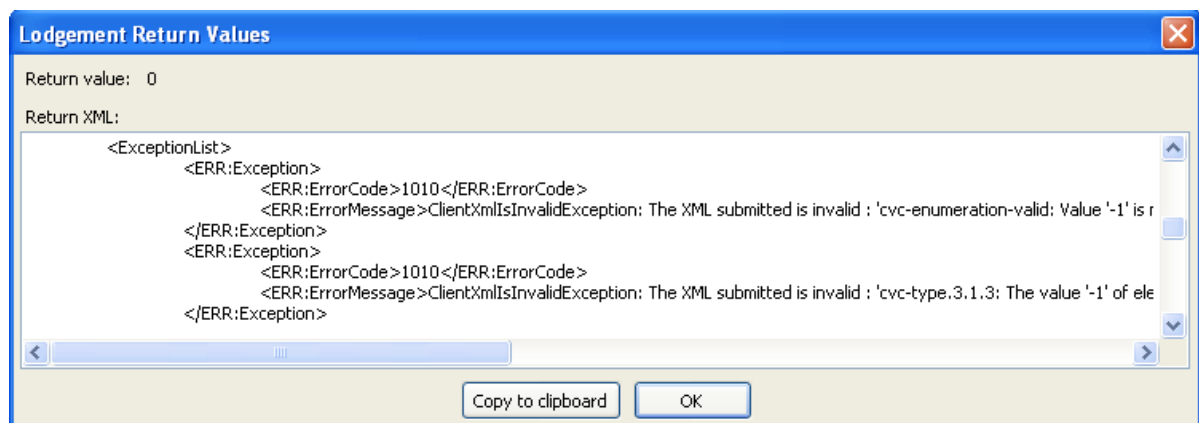

Figure 5.2: Viewing the exception list for a failed lodgement
3. Click **View returned value**. The **Lodgement Return Values** dialogue opens (Figure 5.2).